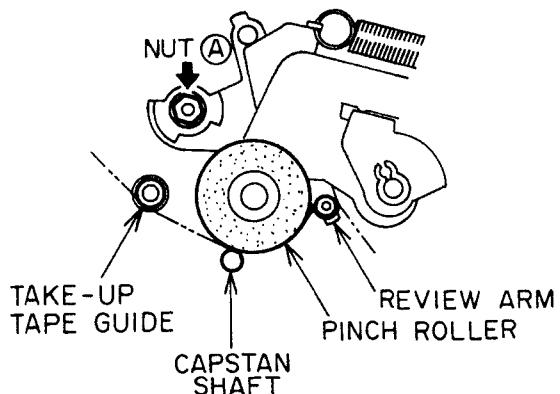
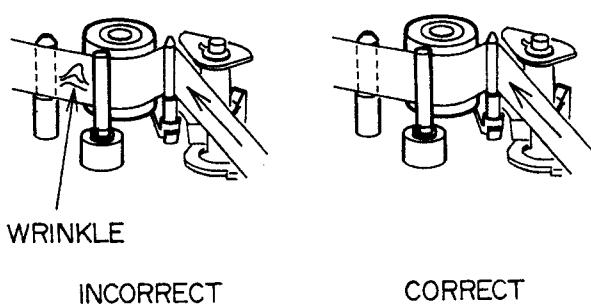

Fig. 4-6
Fig. 4-8
- 2) Turn the REVIEW ARM height \textcircled{A} nut so that the edge of the tape barely touches the lower part of the TAKE-UP TAPE GUIDE, without any curl or wrinkle between the TAKE-UP TAPE GUIDE and the CAPSTAN SHAFT as shown in Fig. 4-6 to Fig. 4-8.
If curl or wrinkle of the tape occurs, slightly turn the \textcircled{A} nut (Shown in Fig. 4-6) until it disappears.